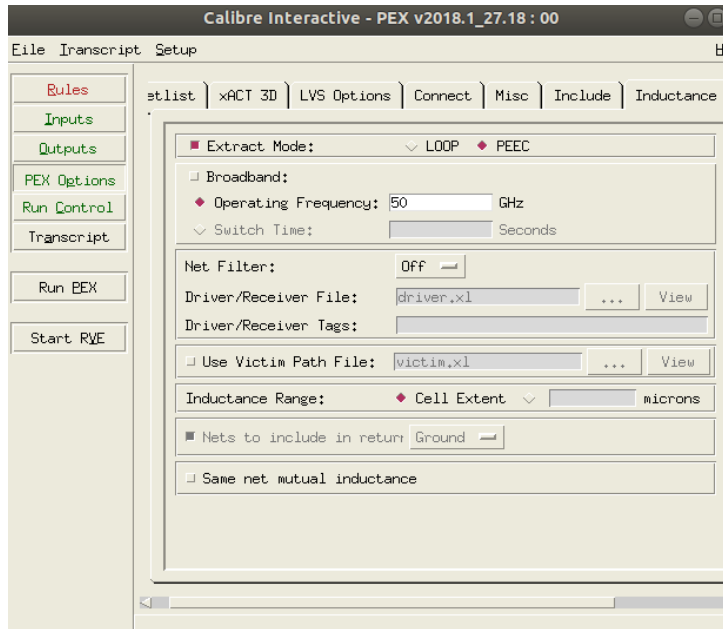

Figure 14: PEX Calibre- PEX Option
- Click on the “PEX Options” as shown in Figure 14.